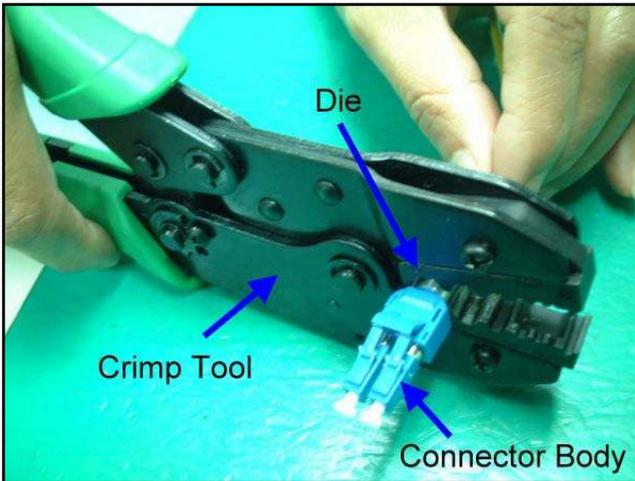

Fig 18
**Step 22** Crimp the crimp tube by the LC Slimpack Connector crimp tool. The hexagon die dimension is shown as the fig 18.